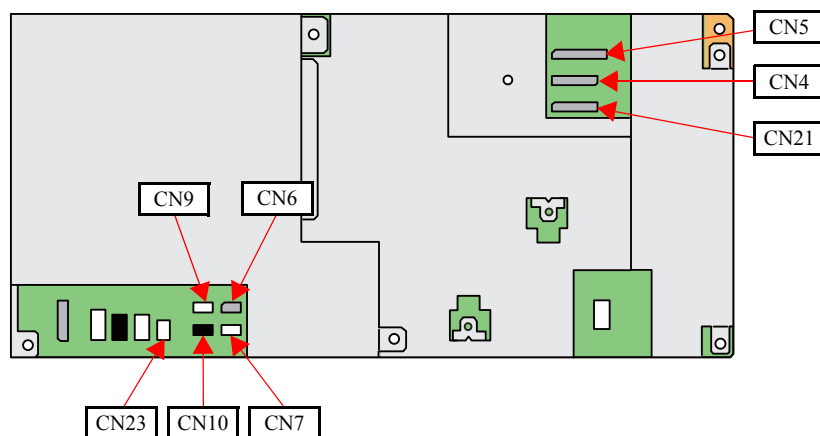

Figure 4-21. Connector Layout of the Main Board Unit
2. Connect the Head FFCs to connectors CN4, 5, 21 on the Main Board. (See Figure 4-21.)